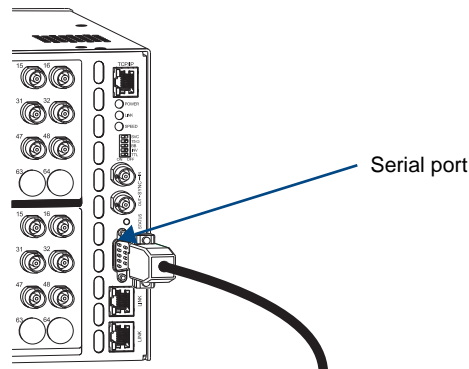

FIG. 18 Connect to serial port on primary enclosure
1. Plug one end of the null modem serial cable into the serial port (DB-9) on the primary enclosure (FIG. 18).